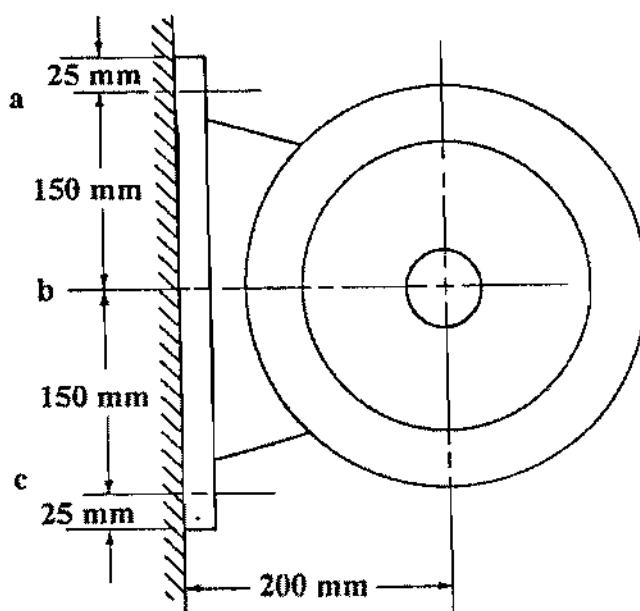

Figure 5b
- (b) Consider the generator attached to a wall as shown in Figure 5b that transmits a maximum torque of 500 Nm. There are three rows of identical bolts supporting the generator: 3 in the top row, 2 in the middle row and 3 in the bottom row. The mass of the generator is 300 kg and its centre of gravity is 200 mm from the wall. Determine the forces in the bolts (neglecting pre-tightening) when they are supporting both the torque and the weight of the generator. (10)